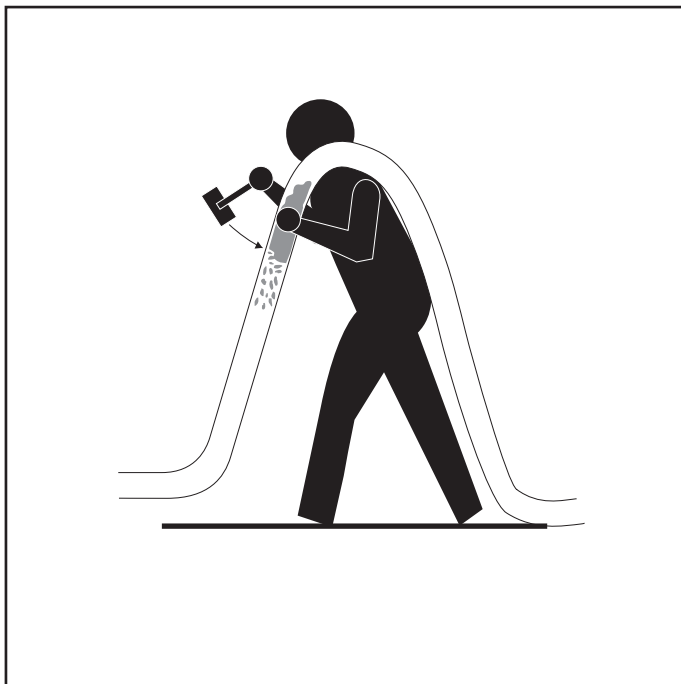

FIG.40
- With a hammer, tap the stiff part of the hose to break up the obstruction (FIG.40)